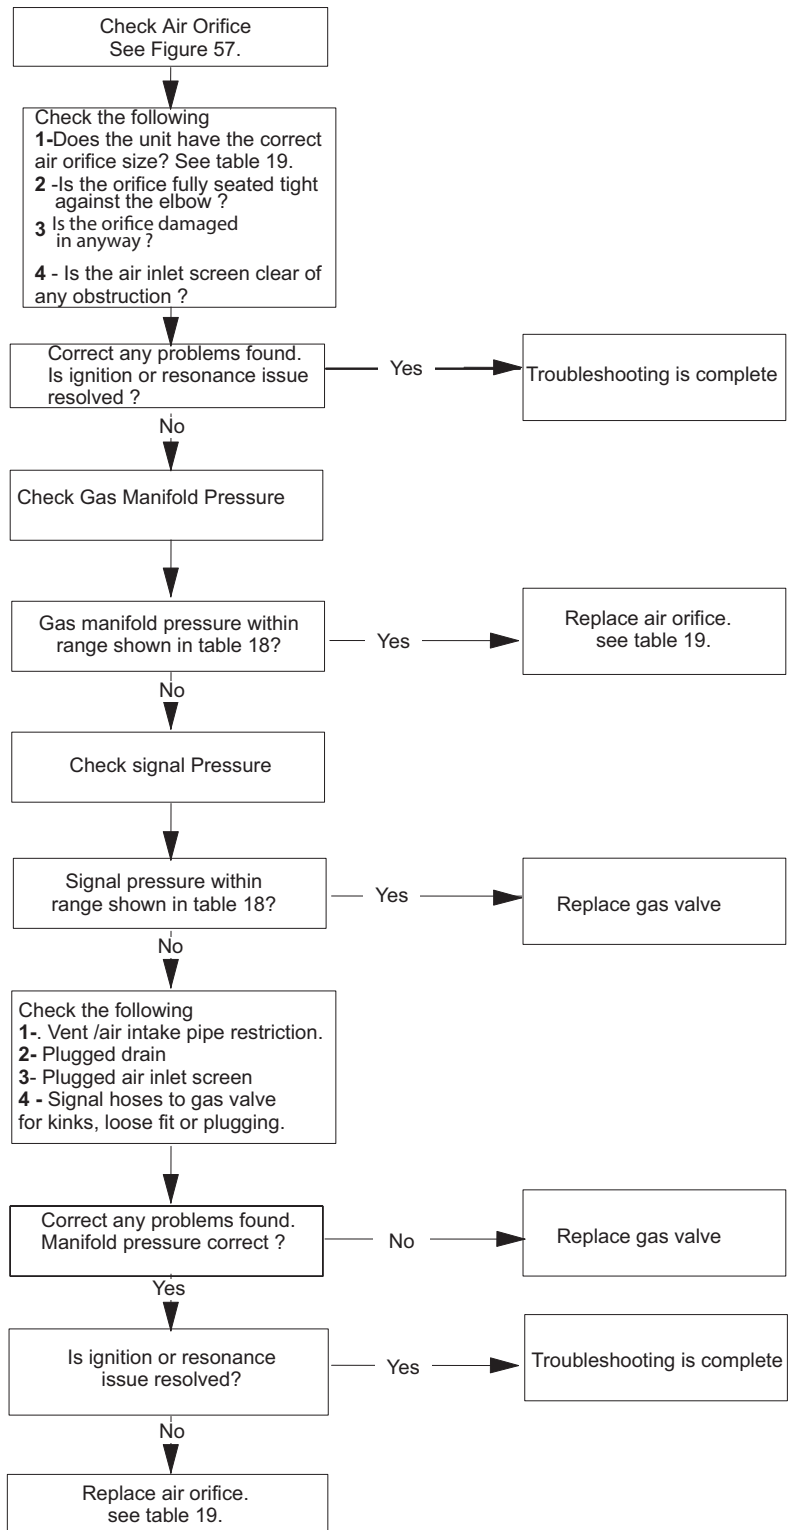

FIGURE 59
- 10 - Repeat manifold and signal pressure check. If unit ignites and manifold and signal pressure are correct, move on to combustion check. If unit still does not ignite or ignites with loud resonance go to Troubleshooting FIGURE 59.